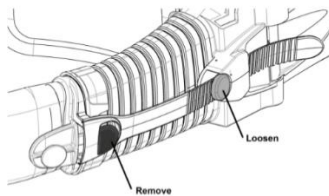

Figure 13 - Mask Release Button and Adjust Button
*Mark release and adjust button as shown in Figure 13.*